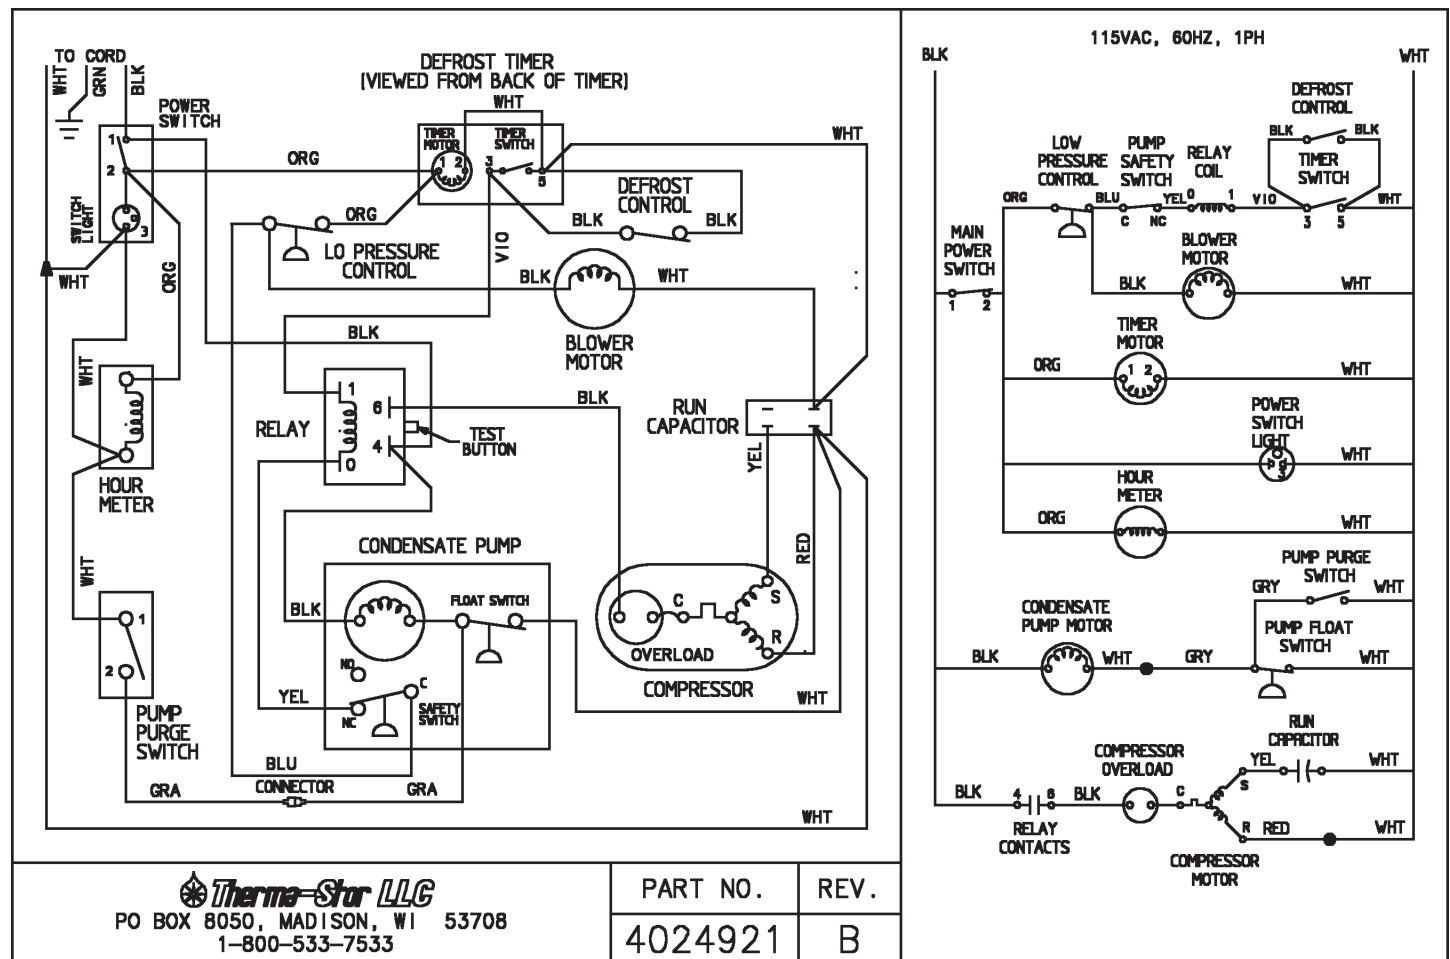

Figure 3: Electrical schematic of 200 MAX
4. Bad connection in pump circuit (Fig. 3).
1. Bad connection in purge switch circuit (Fig. 3).
This compressor is equipped with a two terminal external overload, run capacitor, but no start capacitor or relay (see Fig. 3).